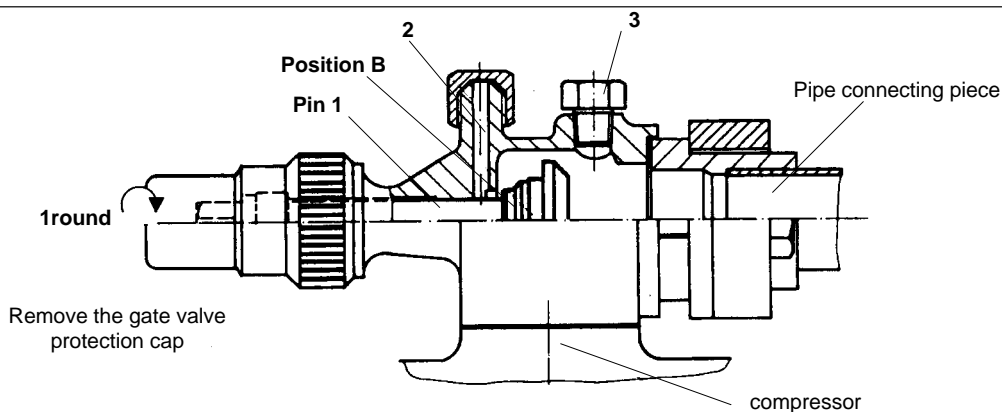

Fig 12
- For valves **18** (suction) and **20** (liquid supply), loosen and move pin 1 backwards, then tighten one rotation (fig. 12) to connect the control pressure sensitive switches.
→ service connecting piece 2 open / shut-off valve open (position B), fig. 12.